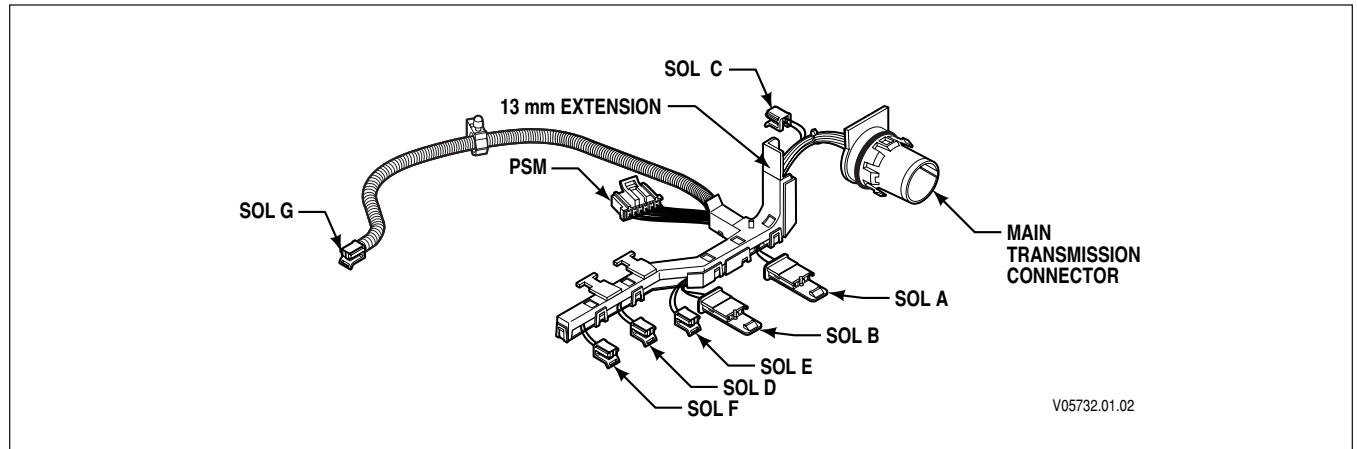

Figure 1–11. Typical Internal Wiring Harness
B. Internal Wiring Harness (Figure 1–11)